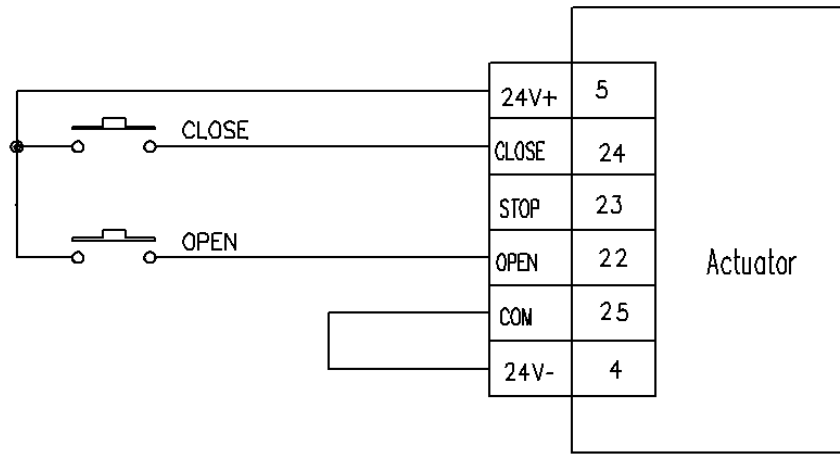

FIG. 4-5
4.2.2.3 Open and close valve inching control (FIG. 4-5)